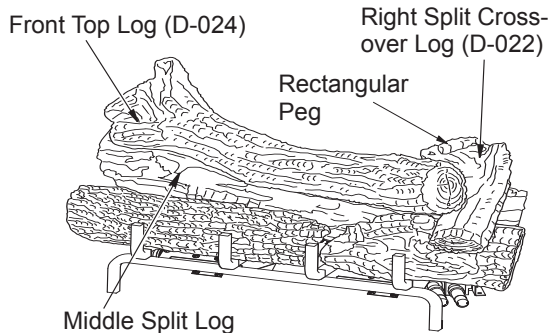

Figure 28 - Installing Large Middle Log
- For GTA/GTB logs, find the front top log (D-024). See **Figure 28**. The left end of this log has a square hole that fits over a square peg that is on the top of the middle split log. The right end of this log rests behind the knot on the top of the front right log.